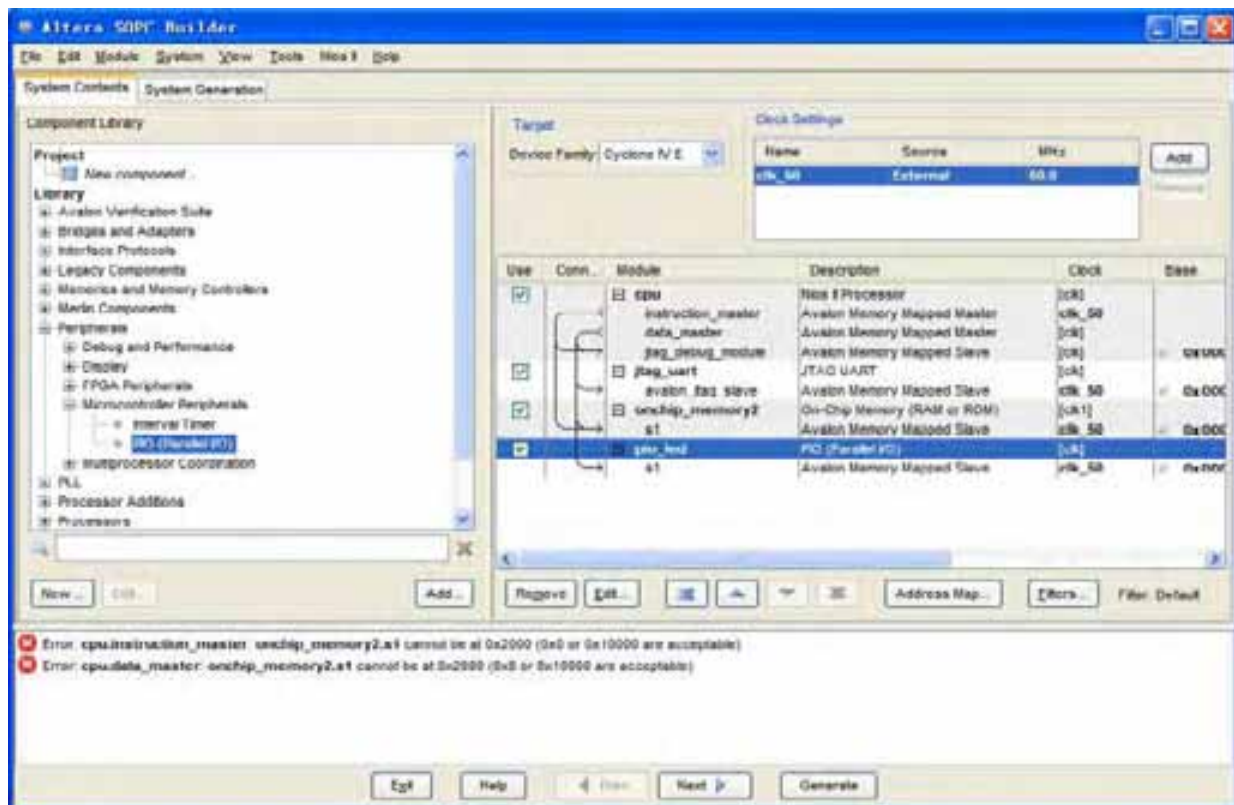

Figure 7-33 Rename PIO
21. Rename **pio_0** to **pio_led** as shown in Figure 7-33.